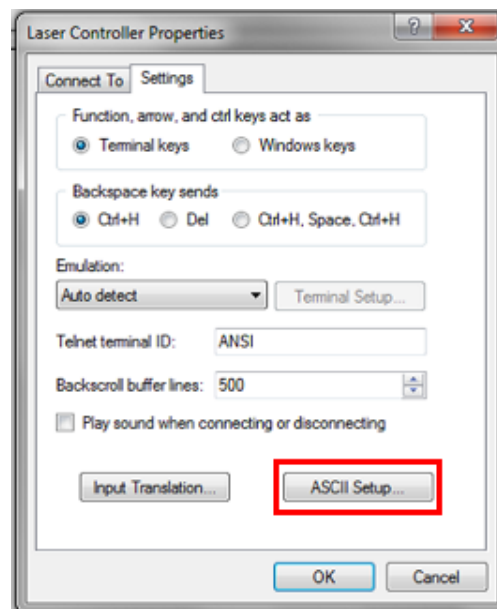

Figure 14: Controller Properties, Click "ASCII Setup"
- To make the communication between the controller and computer easier to watch, it is recommended to send line ends with line feeds and echo typed characters locally. These two functions can be enabled in Window by going to the setting window in the HyperTerminal Session as shown in figures 14 and 15.